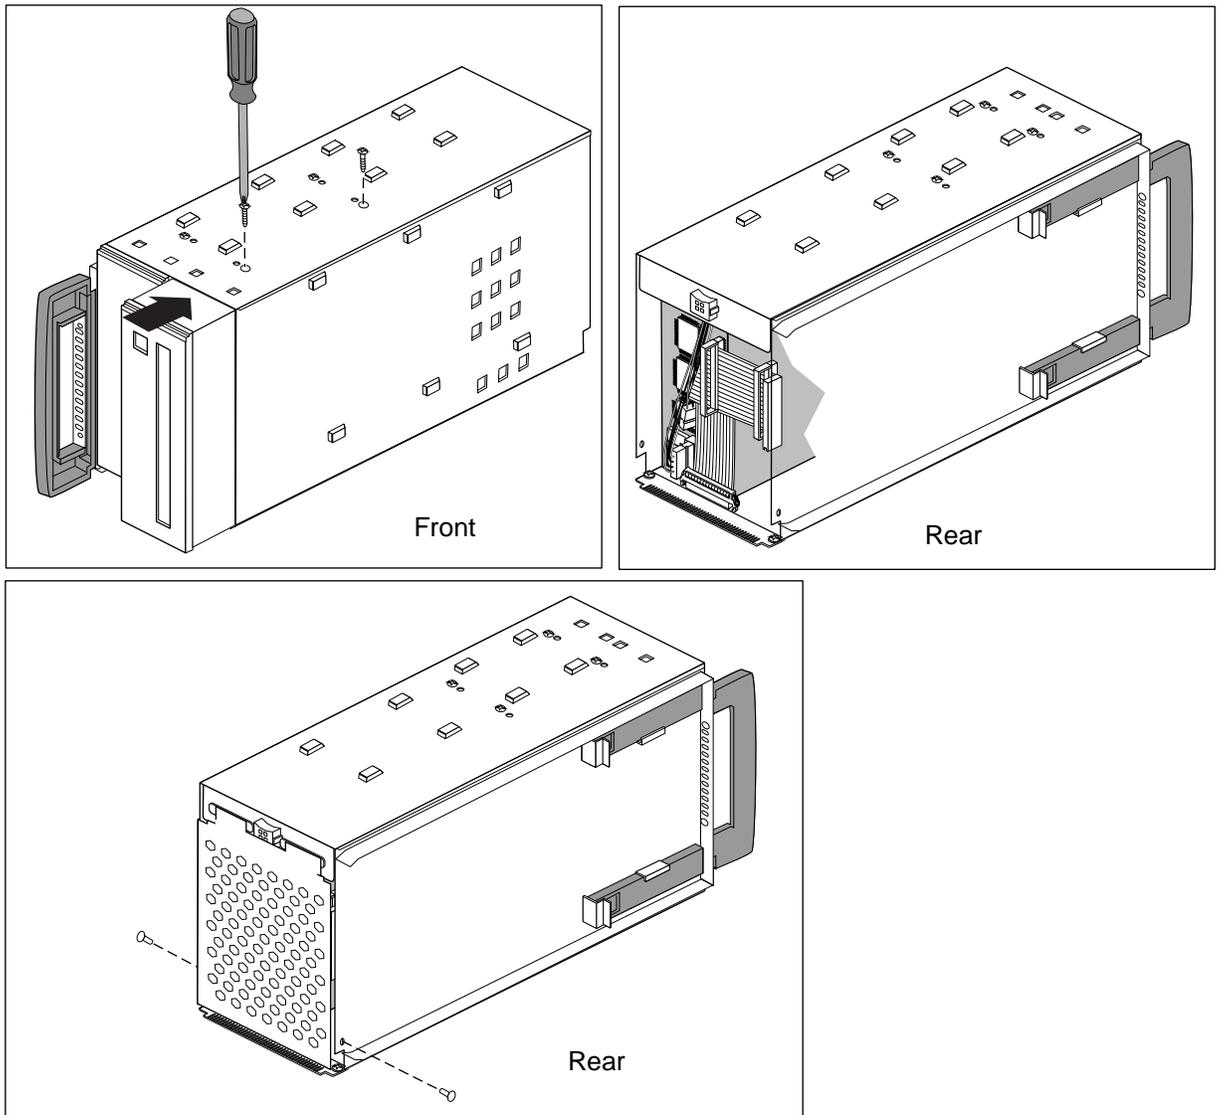

Figure 7-5 Installing a 5.25-Inch Drive in the Peripheral Carrier
3. Slide the drive into the peripheral carrier and attach it with four screws through the side of the carrier, as shown in Figure 7-5.
5. Replace the access plate. See Figure 7-5.